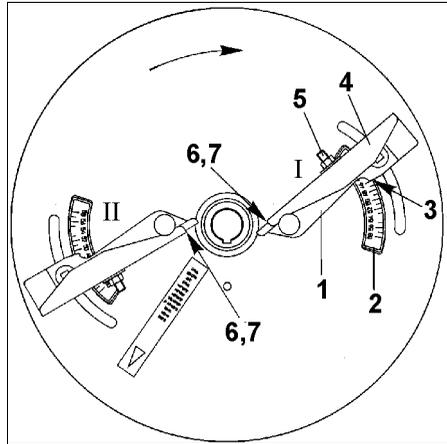

Fig. 48
is done by the telescopic vanes (Fig. 48/1) according to the data given in the setting chart, depending on kind of fertilizer to be spread and the distance of the first track from the field's side as follows:
- After having slackened the corresponding thumb nut, swivel the telescopic blades (Fig. 48/1) on the spreading within the range of the scale (Fig. 48/2) Read off figure on the reading line (Fig. 48/3) and retighten thumb nut.
- After slackening the nut (Fig. 48/5) set outer vane part (Fig. 48/4) on a higher letter value on the scale (Fig. 48/6) Read off the position of the vane outer part on the reading line (Fig. 48/7) on the scale.